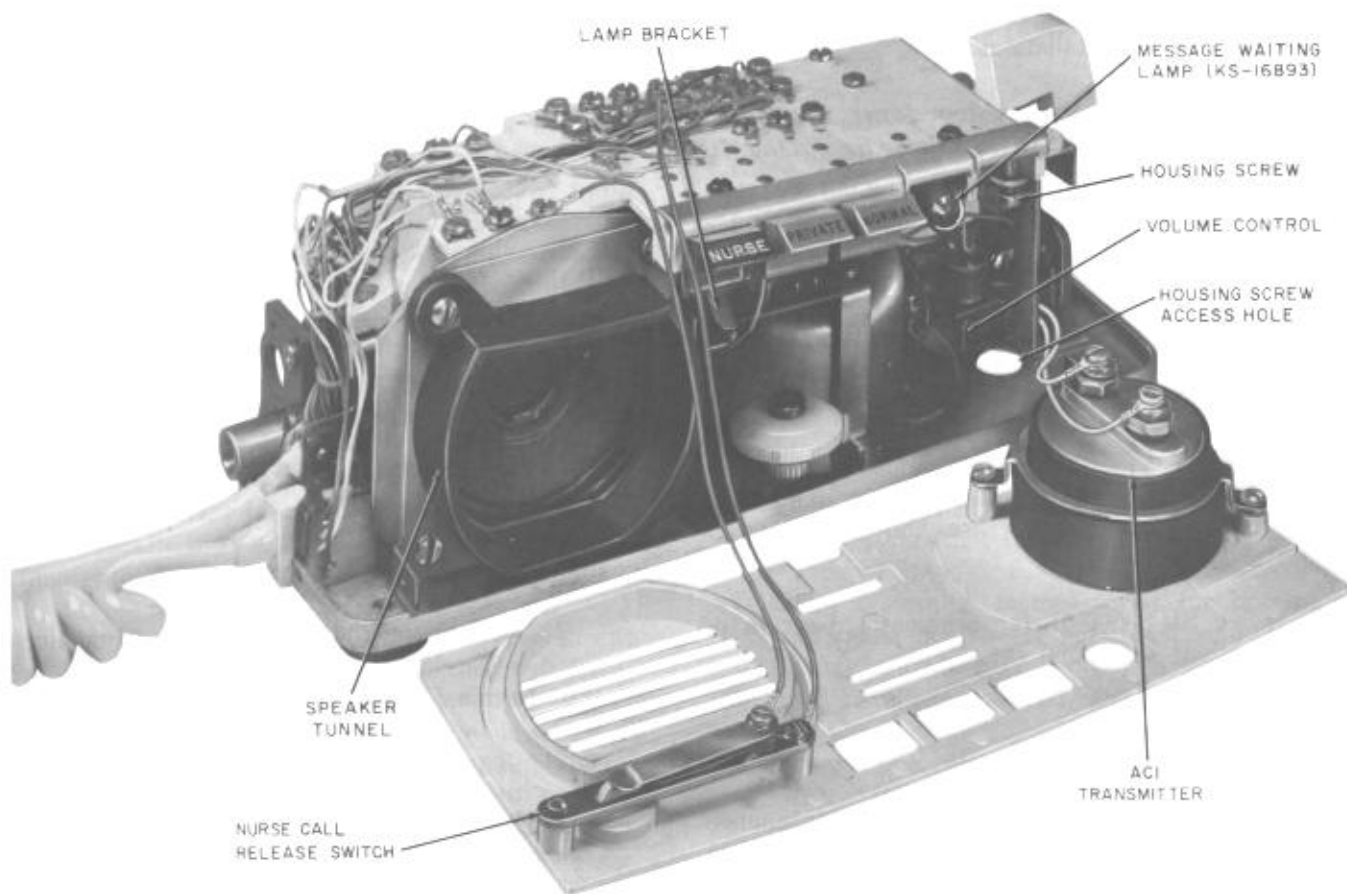

Fig. 2—Patient Telephone Set Base (AE2), Interior View
- (1) Loosen two captive screws through access holes in bottom of the base and lift off housing.
- (2) Tilt top of faceplate forward to clear ringer volume wheel and speaker tunnel (Fig. 2).
- (3) Loosen screws on rear of AC1 transmitter unit to remove spade-tipped leads.
- (4) Remove (V-BL) and (W-BR) leads (from nurse call release switch) from terminals 6 and 22, respectively, of terminal board.